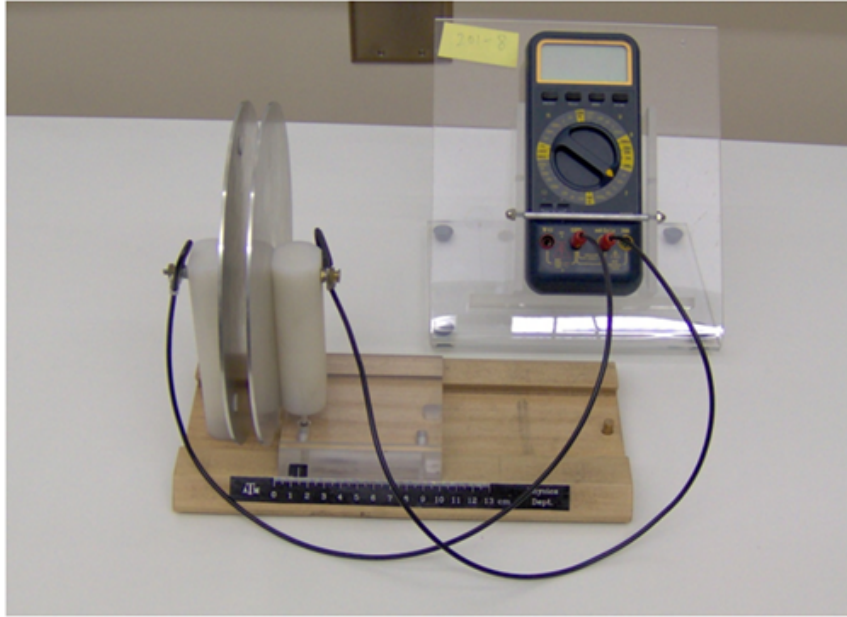

Figure 3
- 1 Make sure the multimeter is off. Connect the two leads of the capacitor plates to the COM jack and the Cx jack of the multimeter. See Figure 3.